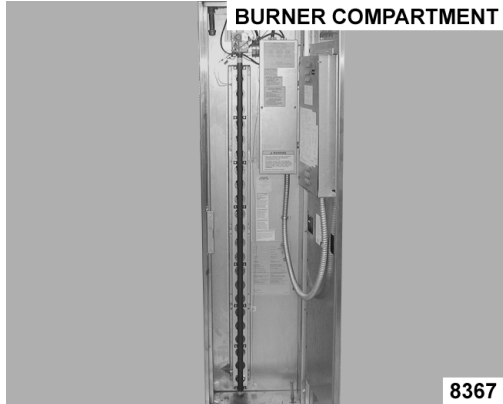

Fig. 2
1. Clean the control/burner compartment (Fig. 2) area of dust and/or lint accumulation.